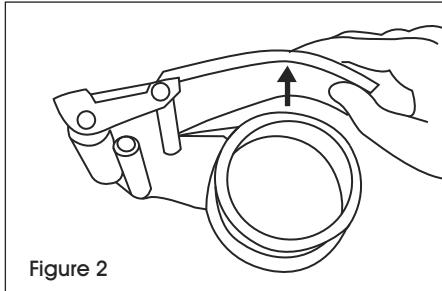

Figure 2
2. Push hand brake up. (See Figure 2)